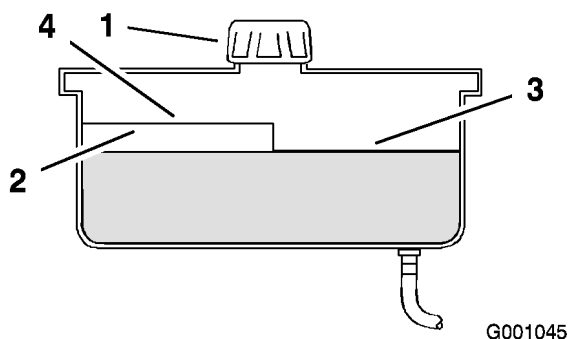

Figure 54
4. Clean area around cap and filler neck of hydraulic tank (Figure 54).
5. Remove cap from filler neck. Look inside to check if there is fluid in the reservoir. (Figure 54).
- Note:** The fluid level should be to the top of the hot level of the baffle, when the fluid is warm (Figure 54).